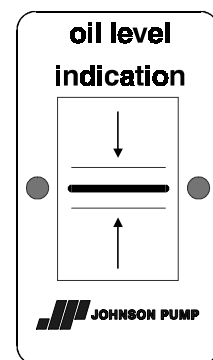

figure 7: Oil level
- Regularly check the oil level, see fig 7.